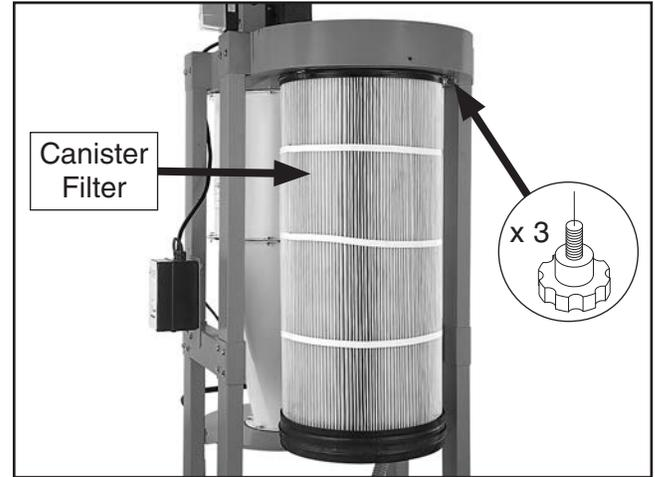

Figure 26. Canister filter installed.
26. Secure canister filter to impeller housing with (3) $\frac{5}{16}$ "-18 x 1" knurled knob bolts (see **Figure 26**).